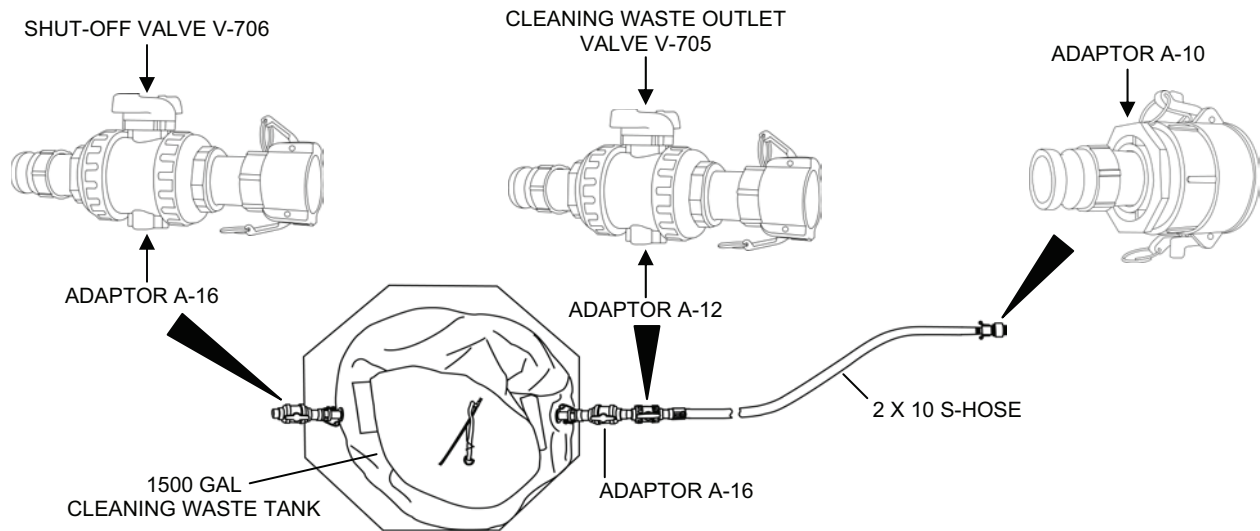

Figure 29. Cleaning Waste Storage Tank Set-Up.
The MF element fibers require periodic chemical cleaning to remove dirt and organic material that is not fully removed by the backwash. The need to clean is indicated by the “Clean MF” alarm. The MF fibers are always cleaned first with the low pH citric acid and then with the high pH detergent membrane cleaner. The RO feed tank is used to mix and store the cleaning solutions and the RO feed pump is used to circulate the solutions. Heaters mounted to the RO feed tank heat the cleaning solutions to improve their effectiveness. Cleaning valves direct the cleaning solution as required for mixing, circulation and pump out to waste. The 6-in., red-banded waste out hose is removed and replaced with 2 x 10 cleaning waste hoses that are normally connected to a cleaning waste storage tank. Adaptor A-12 with Cleaning Waste Outlet Valve V-705 is connected to the end of the cleaning waste hoses (see Figure 29). A 1500-gallon cleaning waste storage tank holds the cleaning and rinse wastes. Connected to both sides of the waste tank is Adaptor A-16 with Shut-Off Valve V-706.
1. Install 2 x 10, red-banded, cleaning waste hoses with Adaptor A-10 Cleaning Waste Outlet Valve V-705 closed (see Figure 29) and cleaning waste tank with Adaptors A-16 shut-off valves V-706 closed.